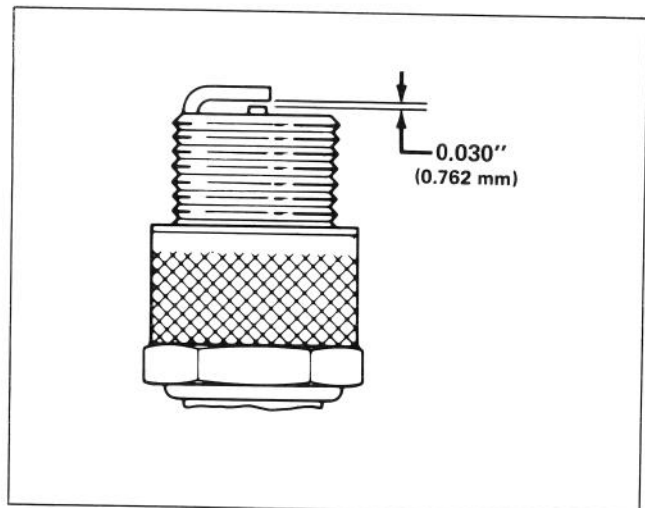

Figure 20
5. Set air gap between center and side electrodes at 0.030 of an inch (0.762 mm) (Fig. 20). Install correctly gapped spark plug w/gasket seal, and tighten plug to 15 ft-lb (20.4 N·m). If torque wrench is not used, tighten plug firmly.